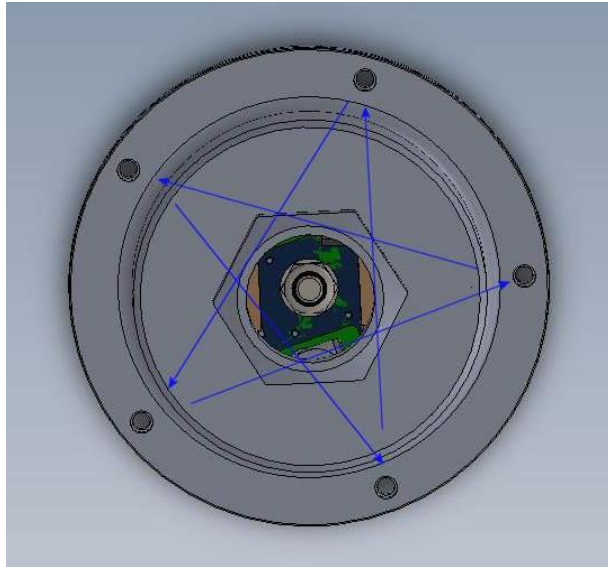

Figure 5-12: Tightening order
- 5.2.2.15 To compress the sealing O-ring evenly, tighten the five screws progressively working across the circle rather than around the circle of screws as illustrated in Figure 5-12. Tighten the screws to the torque specified in the installation drawing (46-XXXX) provided with each Bushing Adaptor.